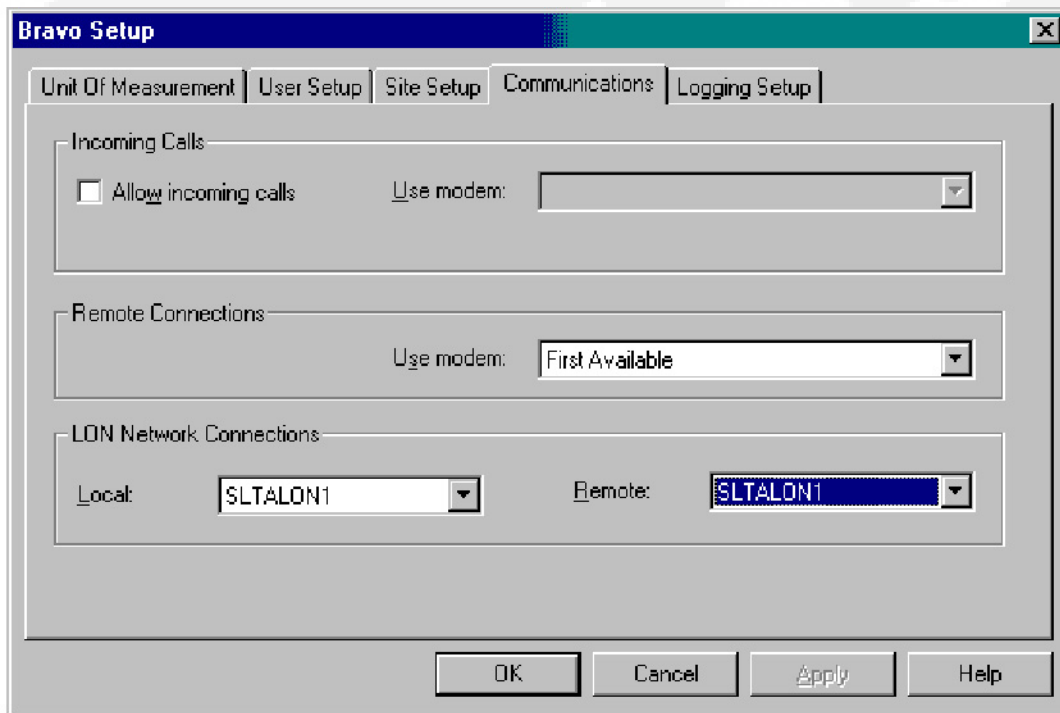

FIGURE 202. NETWORK COMMUNICATION SETUP
**Local:** Click on the drop-down arrow and select **SLTALON1** from the list (or use **PCCLON1** if using PCC-10 card). Click on the **Apply** button (Figure 202).